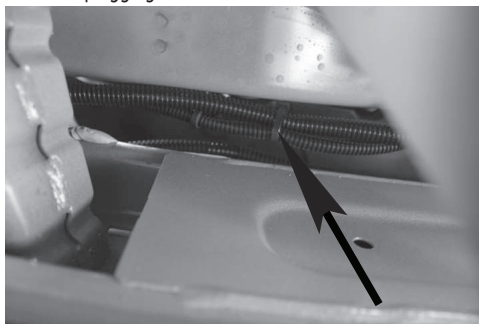

Figure 4
6. Route portion of RV Harness with connectors containing **Green** wires down taillight opening. Route behind bumper to passenger side securing to factory wire harness with cable ties provided shown in **Figure 4**. On passenger side route a fish tape through taillight opening. Secure RV harness ends to fish tape and pull through taillight opening and repeat Step 4 for connector plugging.